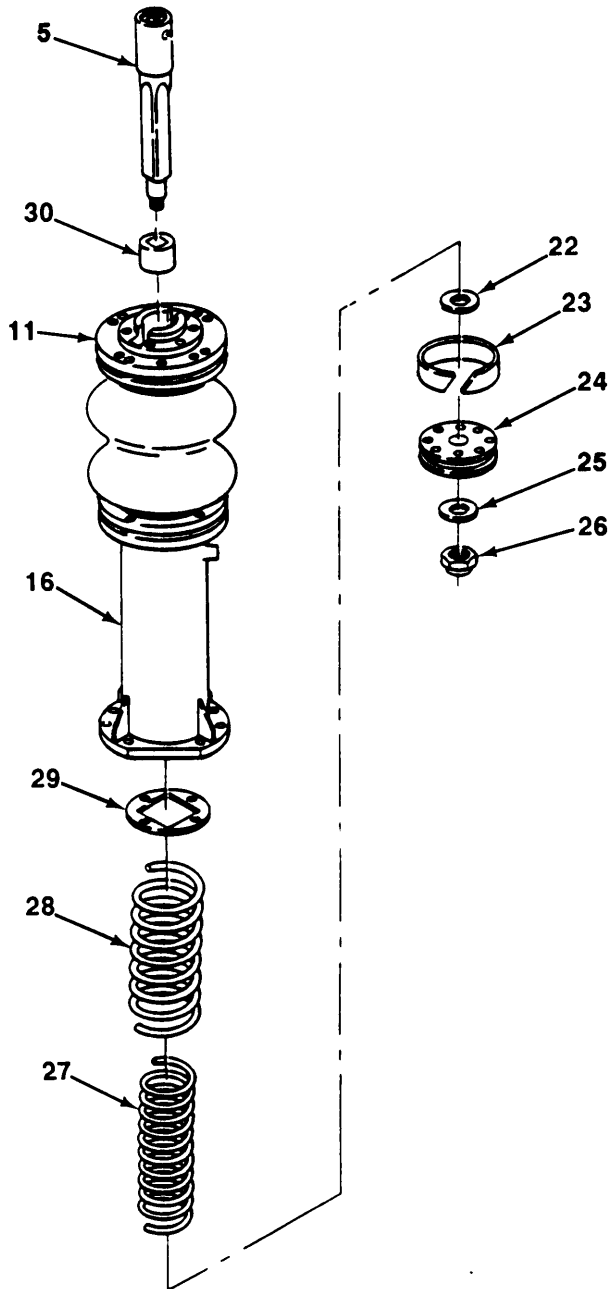

Figure 13-7. Piston Rod Replacement (VR11C).
**Refer to Figure 13-7, *Piston Rod Replacement (VR11C)*, for steps f through L**
- f. Remove locknut (26), spacer ring (25), piston (24), and spacer ring (22) from piston rod (5). Discard locknut.
- g. Remove piston ring (23) from piston (24).
- h. Remove two springs (27 and 28), spacer (29), and piston rod (5) from lower unit housing (16).
Refer to Figure 13-7, *Piston Rod Replacement (VR11C)*, for steps d through g.